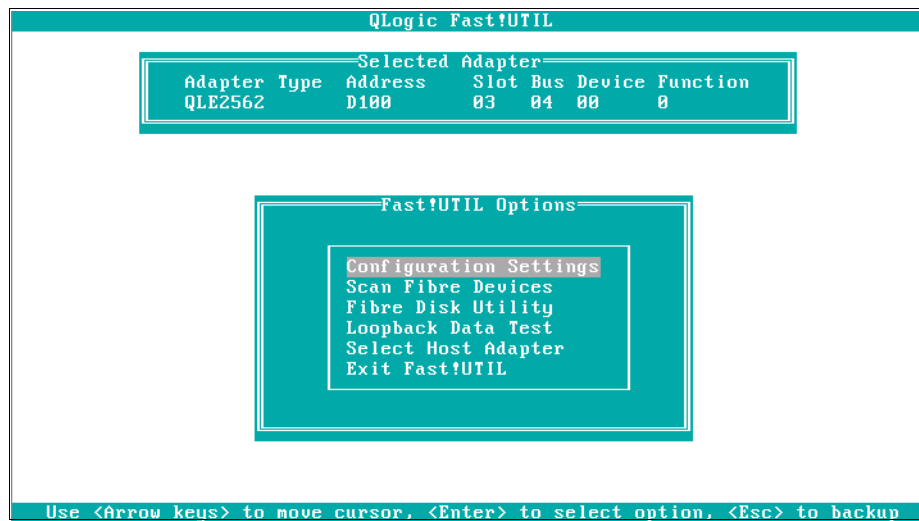

Figure 2-16 Selection of Configuration Settings
3. Select **Configuration Settings** as shown in Figure 2-16.